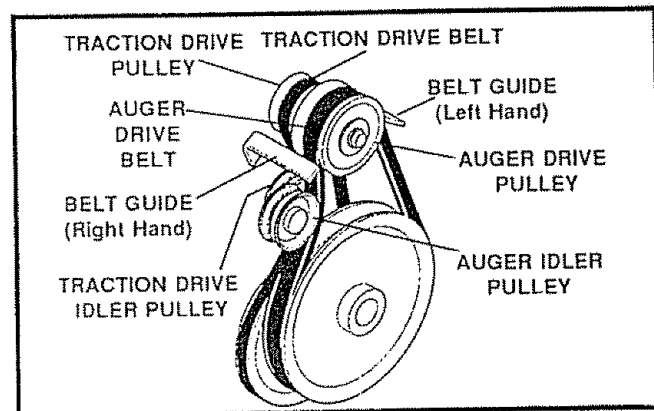

FIG. 28
- Loosen the belt guides (See Fig. 28) and pull away from the engine drive pulley.
- Loosen the nut on the auger idler pulley (See Fig. 28) and pull idler pulley away from the belt.
## TRACTION DRIVE BELT (See Fig. 28)